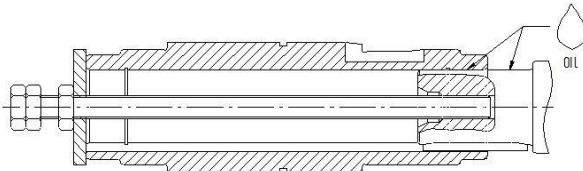
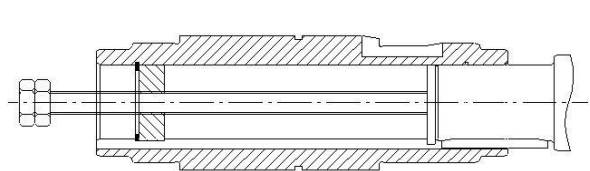

Figure 13: Assembly of a slip-on gear mechanism
Figure 14: Disassembly of a slip-on gear mechanism
Do not impinge hollow shafts, and assemble as shown in figure 13. Disassemble hollow shafts using extracting tool, or for hollow shaft bore holes > 32 mm, according to the figure 14.
- Slightly loosen clamping screw (see Figure 14).